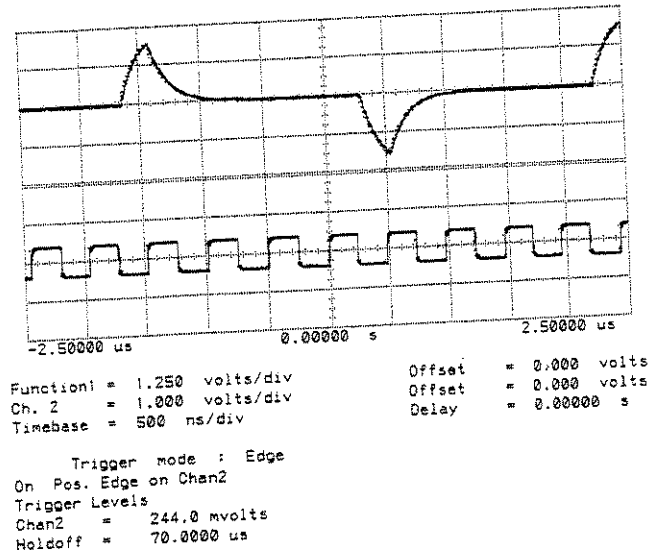

Figure 8-29 Pulse Shape Network Adjustment (Data Output)
- Reselect Page 4 [JITTER TRANSFER FN] and set to Modulation [INTERNAL] [400HZ] with the Tx Jitter Amplitude P-P field reset to [0 REF]. Check that the Oscilloscope display is as shown in Figure 8-29 (adjust the pulse shape network to obtain the desired waveshape on channel A of the Oscilloscope).